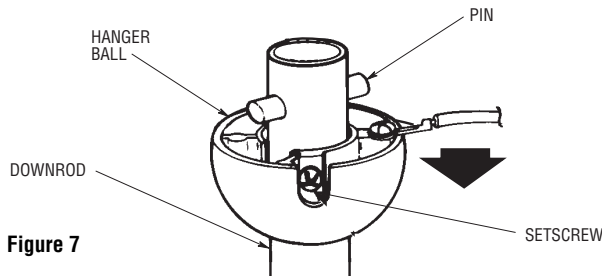

Figure 7
12. Remove the hanger ball by loosening the setscrew in the hanger ball until the ball falls freely down the downrod (Figure 7). Remove the pin from the downrod, then remove the hanger ball. Retain the pin and hanger ball for reinstallation in Step 15.